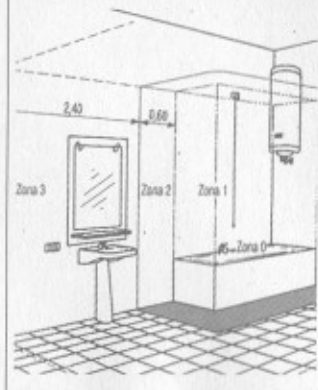

FIG. 3
- Drill three holes in the wall as shown in Fig. 3. Choose between the two options according to your needs.